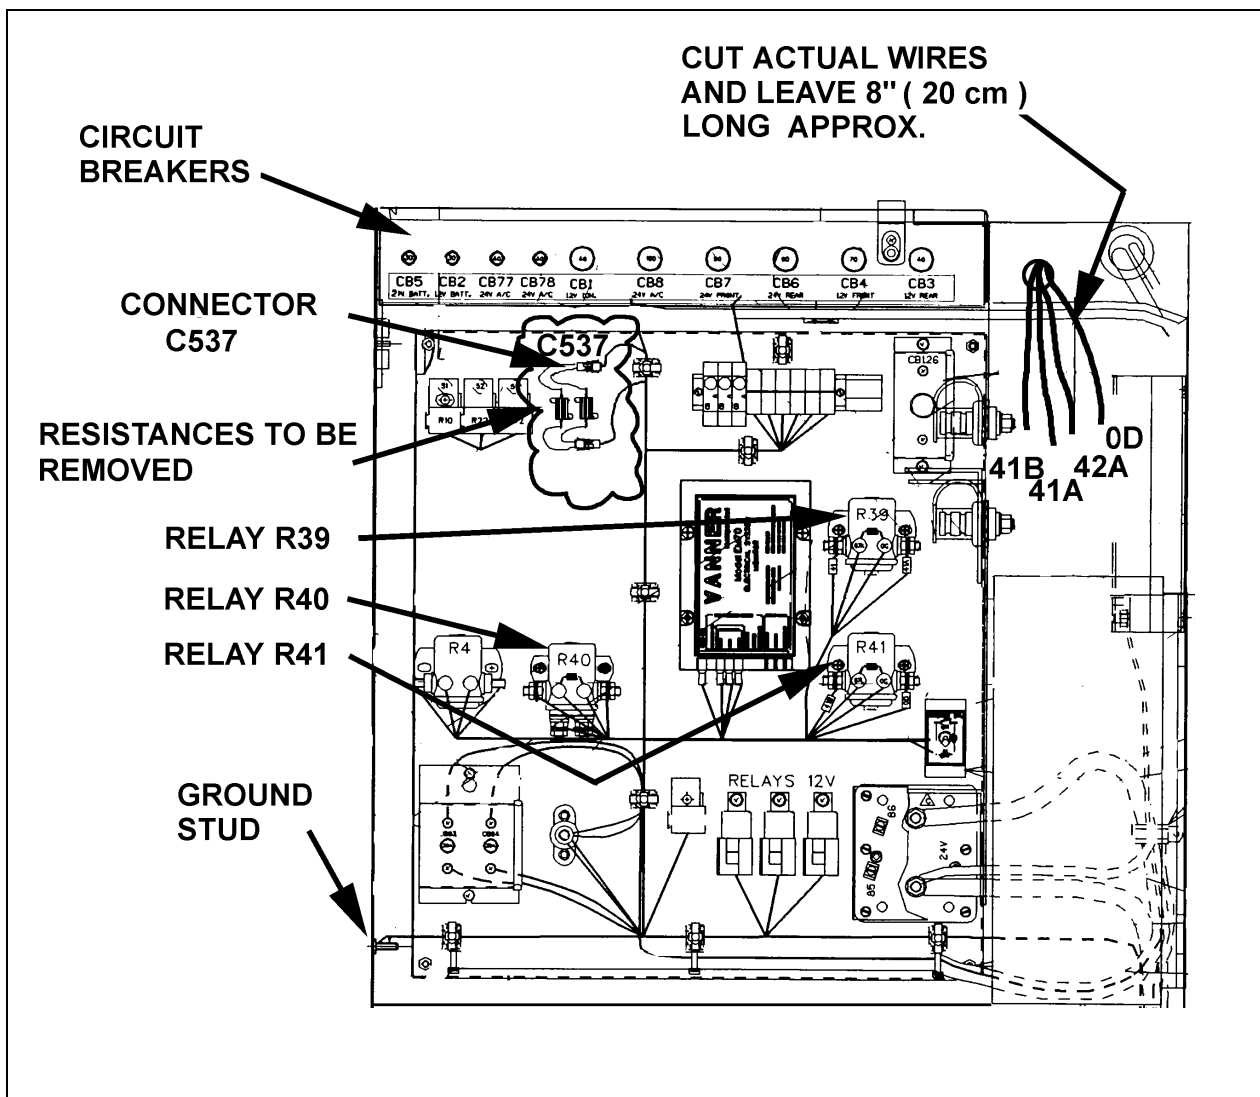

Figure 6 : main power compartment back panel
3. Locate on the upper right side of the back panel a four (4) wires harness wrapped with electric tape. These wires are identified 41A (red), 41B (red), 42A (red) & 0D (black) (figure 6).
4. Cut wires 41A, 41B, 42A & 0D and leave approximately 8" (20 cm) long (figure 6).
6. Disconnect and remove wires 0C & 0D from ground stud (figure 6).
7. Unplug connector C537 from resistances and remove the resistances (figure 6).